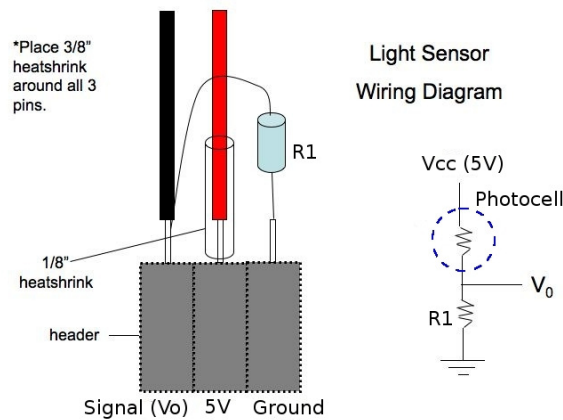

Figure 1: Wiring diagram of the light sensor.
1. Consult the wiring of the light sensor on the exemplar, and Figure 1.
4. Using Figure 1 and the exemplar robot as guides, build and mount two light sensors to your robot's frame. For each sensor, connect the 3-pin female header to either channel 0 or 1 of the ADC ports on the μ ORCboard. Be careful to observe the polarity of the connector as well as the male header on the μ ORCBoard. If you have questions, consult the exemplar robot.